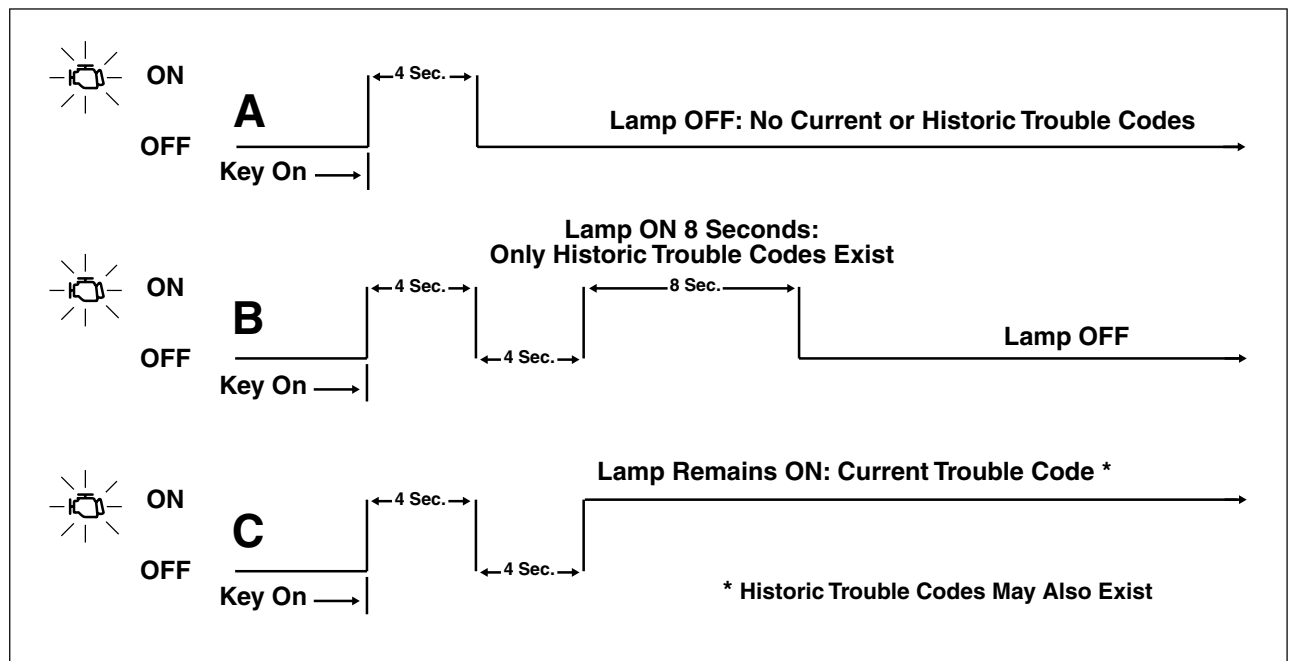

Figure 4-4. Check Engine Lamp Operation
- a. Remain off if there are no fault conditions or trouble codes currently detected by the ignition control module. See A of Figure 4-4.
- b. Come back on for an 8 second period if only historic codes exist. See B of Figure 4-4.
- c. Come back on, and remain on, if a current trouble code exists. See C of Figure 4-4.